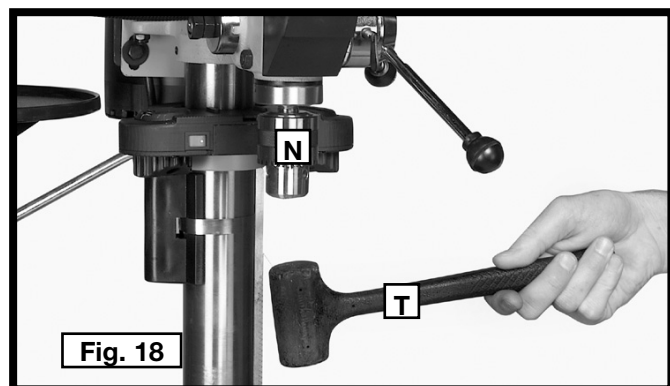

Fig. 18
20. Open the chuck jaws as wide as possible by turning the chuck sleeve (N) Fig. 18. Hold the chuck on the taper of the spindle and tap with a rubber mallet (T) or a block of wood and hammer to set the chuck (Fig. 18).